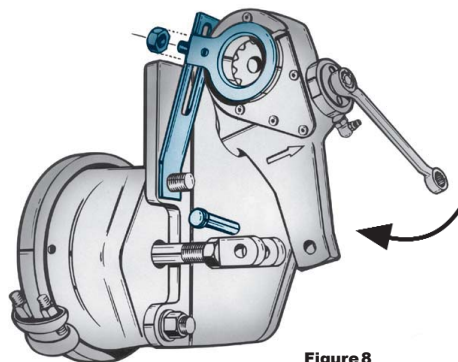

Figure 8
- Install the brake adjuster onto the camshaft with the adjusting hex pointing away from the brake chamber (fig. 8).